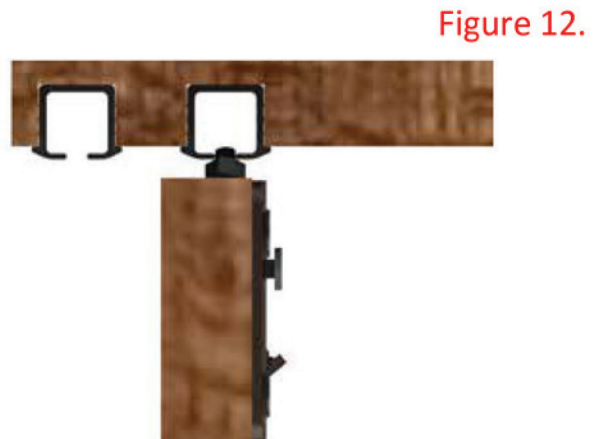

Figure 12.
4. Carefully direct the upper roller into position as guided in **Figure 12**, then unlock the roller.